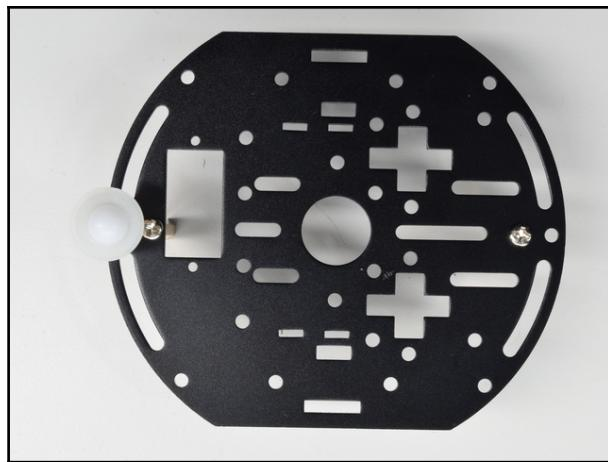

Figure 2.8: Attaching the caster wheel. Image courtesy of Adafruit Industries (<https://www.adafruit.com>); Image credits—John O'Brien-Carelli
3. Turn the chassis layer and attach the caster wheel onto it, as shown in *Figure 2.8*: